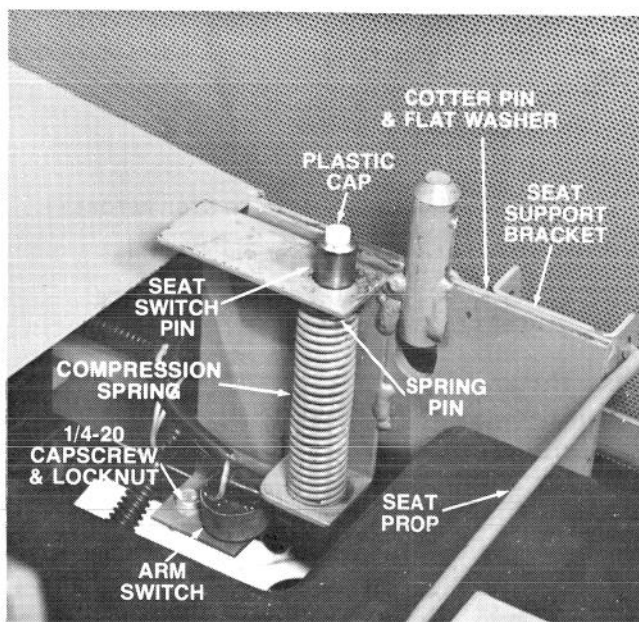

Figure 1
2. Coat seat switch pin with a light coat of grease and mount the compression spring between the flanges, insert the seat switch pin up from the bottom side through the lower flange hole and through the spring (Fig. 1).
5. Mount the seat support bracket, the plastic cap into the seat switch pin and install the seat prop and secure it with a flat washer and cotter pin (Fig. 1).